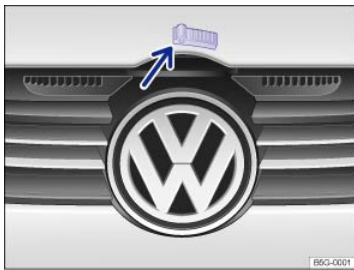

Fig. 197 Above the radiator grille: Outside engine hood release.
- Push the outside hood release lever ⇒ **Fig. 197** (arrow) and lift the hood all the way up. A gas-filled strut will hold the hood up.